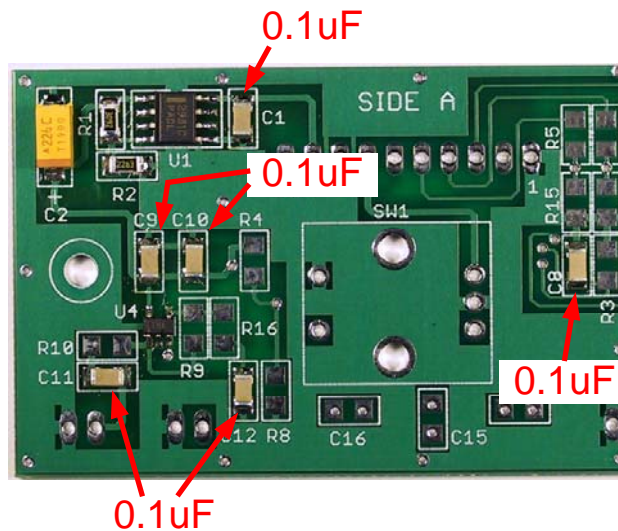

Figure 5. 0.1uF Capacitor Locations
- ☐ Remove the strip of 0.1uF capacitors from Bag 1. These are unmarked. Remove only 6 of parts. The rest will be used on Side B. Refer to **Figure 5**. Install these at: